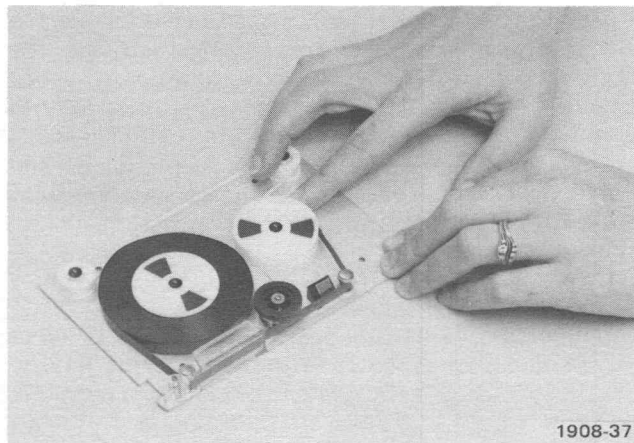

Fig. 3-13. Beginning the tape winding.
4. Rotate the spool, causing the tape to pass around the spool, with the loose end passing through the inside edge of the spool (Fig. 3-13).